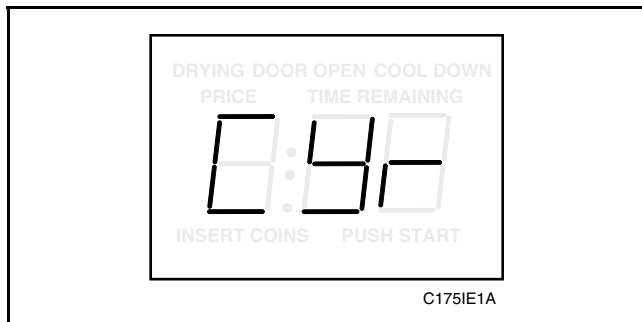

Figure 95
3. Press the LOW TEMP (+) pad **or** the NO HEAT (-) pad to scroll through the programmable options until “CYr” appears in the VFD, *Figure 95*.